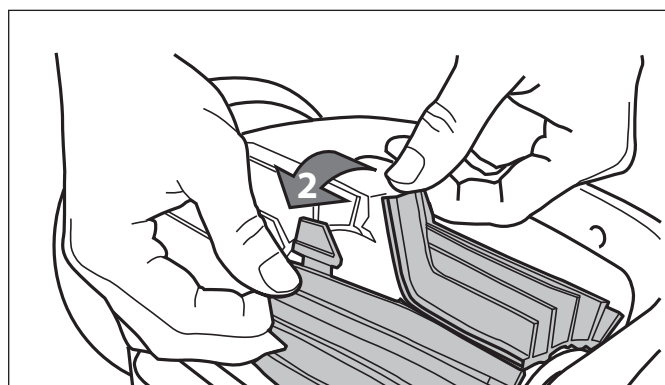

Figure 26. Undo the Tabs of the Brush
- Lift the cleaner to a vertical position so that the handle is up (Figure 26).